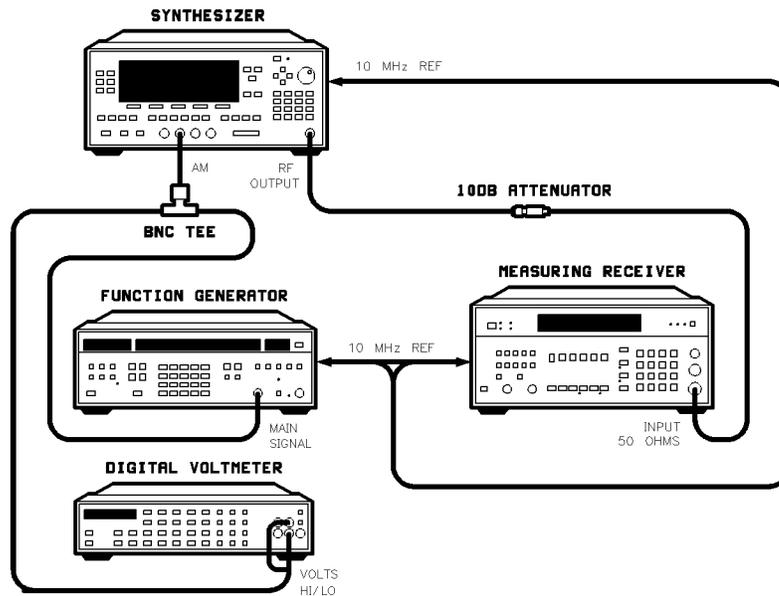

Figure 2-23. AM Accuracy Test Setup Low Band
1. Turn on the equipment shown in Figure 2-23. Preset the instruments and let them warm up for at least one hour.
3. Connect the equipment as shown in Figure 2-23.